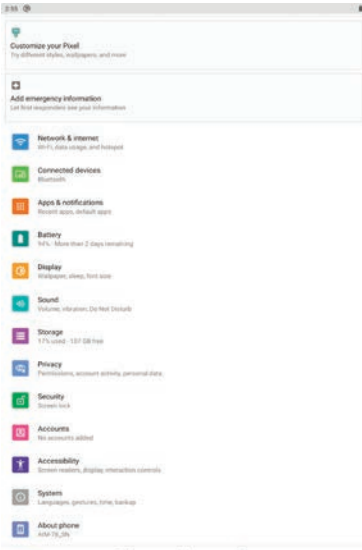

Figure 61. INTELLIO Tablet Settings
- 2. Navigate to the INTELLIO Tablet Settings Figure 61).